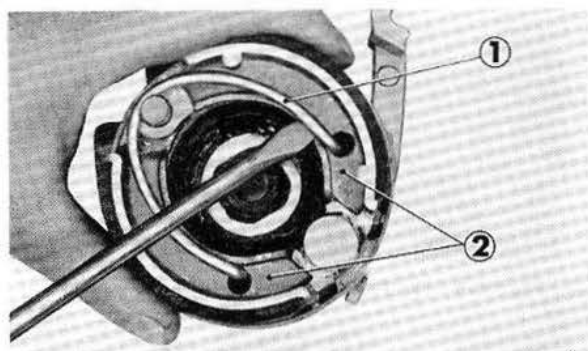

Fig. 4-2 ① Front brake shoe spring
4. Remove the brake shoe spring and disassemble the front brake shoes. (Fig. 4-2)